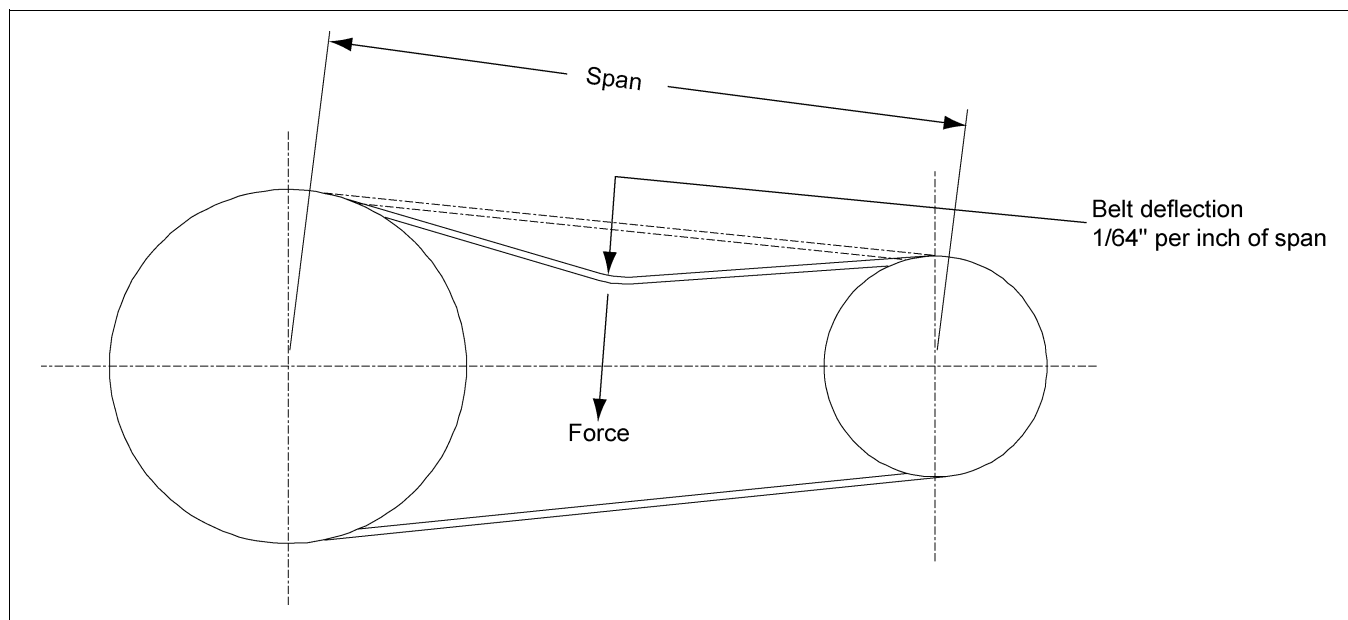

Figure 6R
Adjustment of V-belt tension is achieved by tightening the hex nuts located on the four (4) jack screws of the motor base. Adjust motor base equally at all four (4) jack screws to maintain shaft alignment. Belts are designed to fit loosely upon installation. When the V-belt tension is correct, tighten the top nut on the jack screws to lock the motor base in position. Proper tension is 1/64" of deflection per one inch (1") of sheave centers on one side of belt, centered between sheaves. (See Figure 6R.)